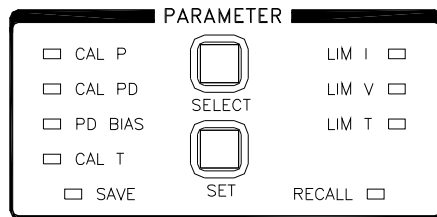

Figure 3.8 Selecting Parameters
- 1 Repeatedly press the Parameter Select button (Figure 3.8) until the CAL T LED is illuminated and “C1” is shown in Display 1.
To adjust current limit, press the Parameter Select button (Figure 3.8) until the LIM I LED is illuminated. If the thermistor constants have just been set, two presses of the Parameter Select button will illuminate the LIM I LED, otherwise the last accessed parameter will be illuminated after the first button press. Repeated presses of the Parameter Select button will cycle through the different selections. Once illuminated, press the Parameter Set button and rotate the Adjust knob to change the current limit. The LIM I LED will flash to indicate it is in adjust mode.
For this mode to operate correctly, the laser's threshold and slope efficiency must be correctly entered via the CAL P parameters. Pressing the Parameter Select button (Figure 3.8) until the CAL P LED is illuminated will display "P1" in Display 1 and a slope efficiency value with undisplayed units of W/A in Display 2. Pressing the Parameter Set button allows the slope efficiency value to be changed with the Adjust knob. Pressing the Parameter Select button again changes Display 1 to "P2" while showing a threshold value of Amps in Display 2. This value is adjusted in identical fashion by pressing the Parameter Set button and then turning the Adjust knob. The value will be saved in nonvolatile RAM after a three second timeout.
An adjustable reverse bias of 0 - 15 VDC is provided for best linear response of the photodiode. To set the photodiode bias, press the Parameter Select button (Figure 3.8) until the PD BIAS LED is illuminated. The bias level is indicated on Display 1 in Volts. Next, press the Parameter Set button and rotate the Adjust knob to change the bias level.